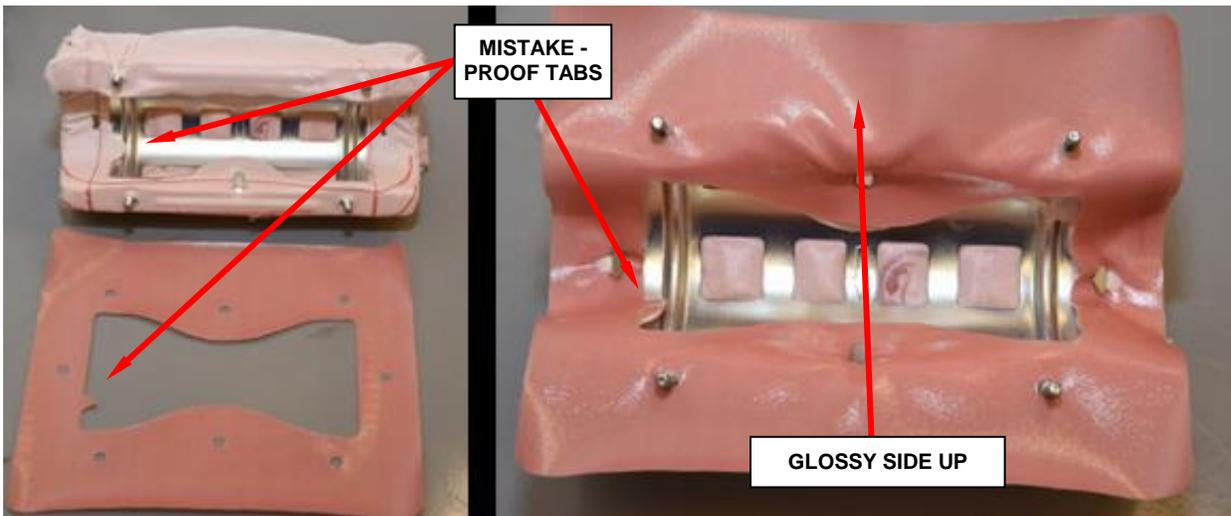

Figure 54 – Fabric Gasket to Cushion
- i. Place the fabric gasket, glossy side up, onto cushion. Mistake-proof tab should be aligned to the tab on the cushion (Figure 54).